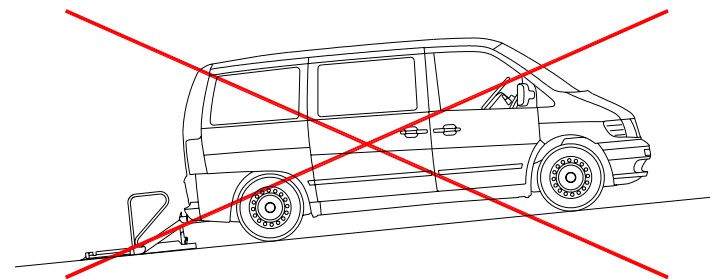

FIGURE 2-1: SLOPED PARKING HAZARD
- Refer to **Figure 2-1**. Operate lift with vehicle parked on level ground. Deploying platform when vehicle is on sloped ground is hazardous because passenger may roll off platform.